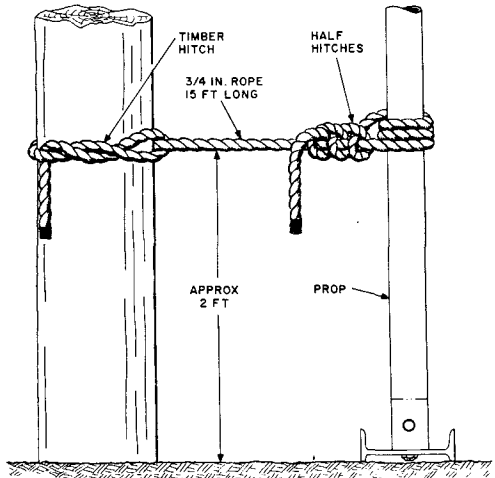
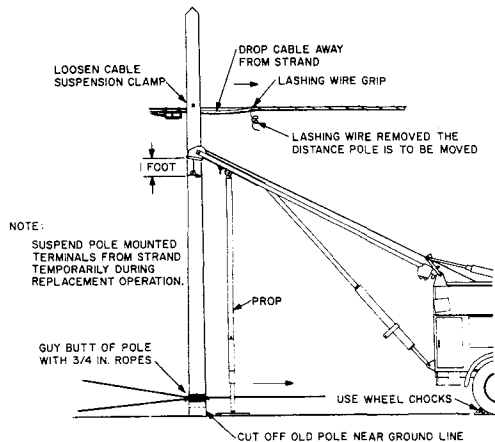

Fig. 1—Derrick In Ground Position
Fig. 2—Pole Tied To Prop
- Position the derrick in the ground position (Fig. 1) and take a slight strain on the winch line.
- (2) Loosen the cable suspension clamp sufficiently to allow the strand to slip through it.
- (3) Snub the lower portion of the pole with rope slings to one or more digging bars or other substantial anchorage. Do not locate the bars where they will hinder the shifting of the pole when it is cut and lifted off the butt.
- (4) When using the derrick in the manner shown, the pole may be snubbed to the ground prop instead of digging bars if the ground plate is resting firmly on level ground, the prop is in a vertical position, and considerable down pressure can be placed on the prop. This is done with a 3/4-inch or larger snub rope, approximately 15 feet long, attached to the pole with a timber hitch about 2 feet above the ground then three wraps around the prop with successive wraps above the preceding turn. The free end should be terminated by three half hitches around the rope between the prop and the pole as shown in Fig. 2. When the pole has been cut off, untie the half hitches and leave the wraps around the prop to serve as a snub while the pole is being shifted off the butt and set on the ground.